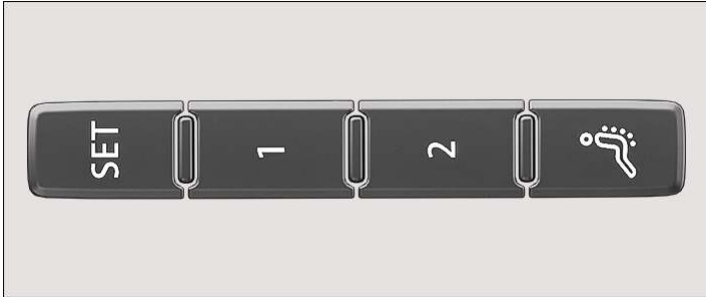

Fig. 1 On the outside of the driver seat: memory buttons.
5. Press the **SET** → Fig. 1 button for longer than 1 second.
6. Within approximately 10 seconds, press the desired memory button → Fig. 1.